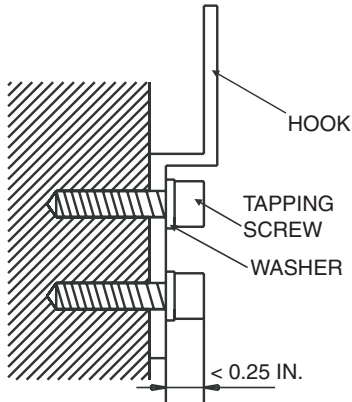

Fig. 11 — Mounting Hooks to Wall
1. Anchor the hooks at the specified location on the wall using the mounting screws. See Fig. 11.